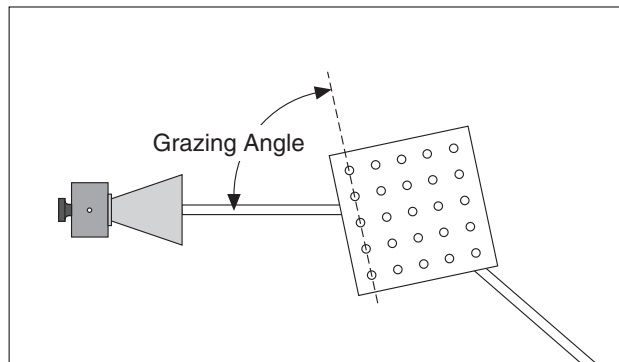

Figure 12.3 Grazing Angle
- ③ Rotate the crystal (with the rotating table) one degree clockwise and the Rotatable Goniometer arm two degrees clockwise. Record the grazing angle of the incident beam and the meter reading. (The grazing angle is the complement of the angle of incidence. It is measured with respect to the plane under investigation, **NOT** the face of the cube; see Figure 12.3.)
- ④ Continue in this manner, rotating the Goniometer arm two degrees for every one degree rotation of the crystal. Record the angle and meter reading at each position. (If you need to adjust the INTENSITY setting on the Receiver, be sure to indicate that in your data.)
- ⑤ Graph the relative intensity of the diffracted signal as a function of the grazing angle of the incident beam. At what angles do definite peaks for the diffracted intensity occur?